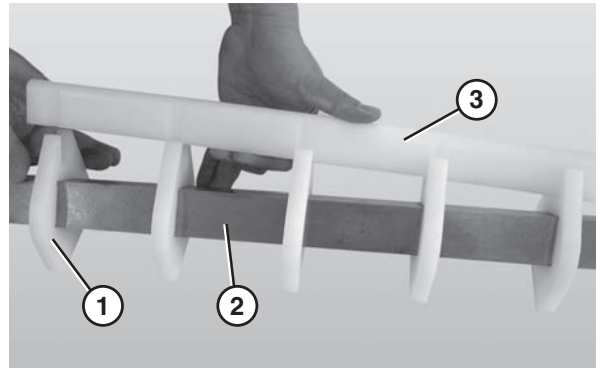

Figure 65
1. Slide the nose bar pucks (**Figure 65, item 1**) onto the nose bar drive post (**Figure 65, item 2**).
2. Attach the nose bar wear strip (**Figure 65, item 3**).